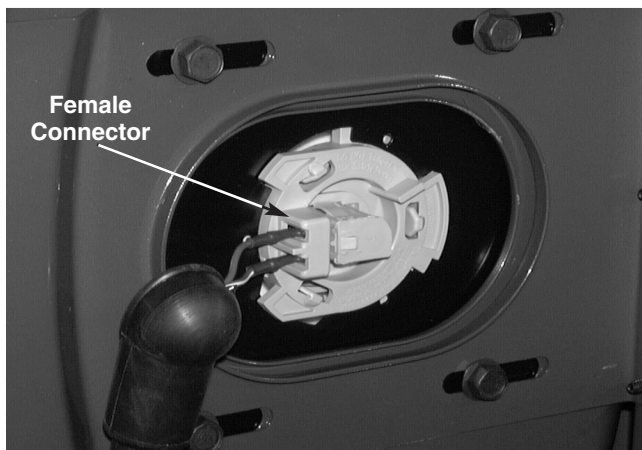

FIGURE 5.
- 2). Raise the hood, remove one of the wiring harness female connectors from the seat switch, and lower the hood. See figure 5.